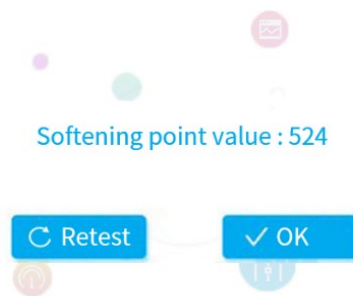

Figure 4-6
- 4) Click **Retest** on the interface in Figure 4-6 to enter the [Softening point test] interface as shown in Figure 4-4 and retest the softening point.